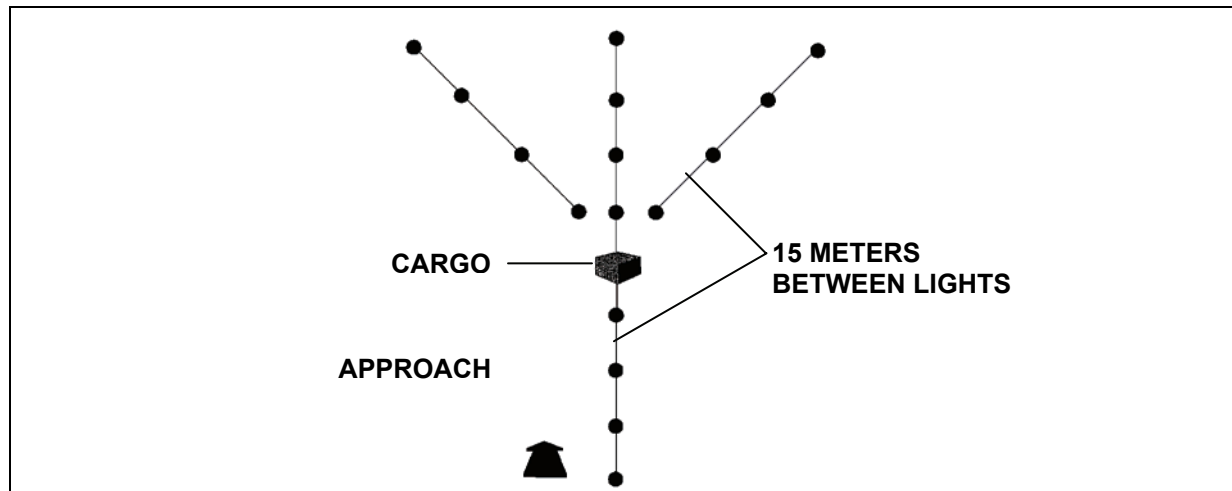

Figure 4-16. Crow's Foot System
- **Crow's foot.** (USMC) The crow's foot is an optional lighting system used during night operations. Infrared chemlites are attached to tent stakes at 15 meter intervals as shown in Figure 4-16.